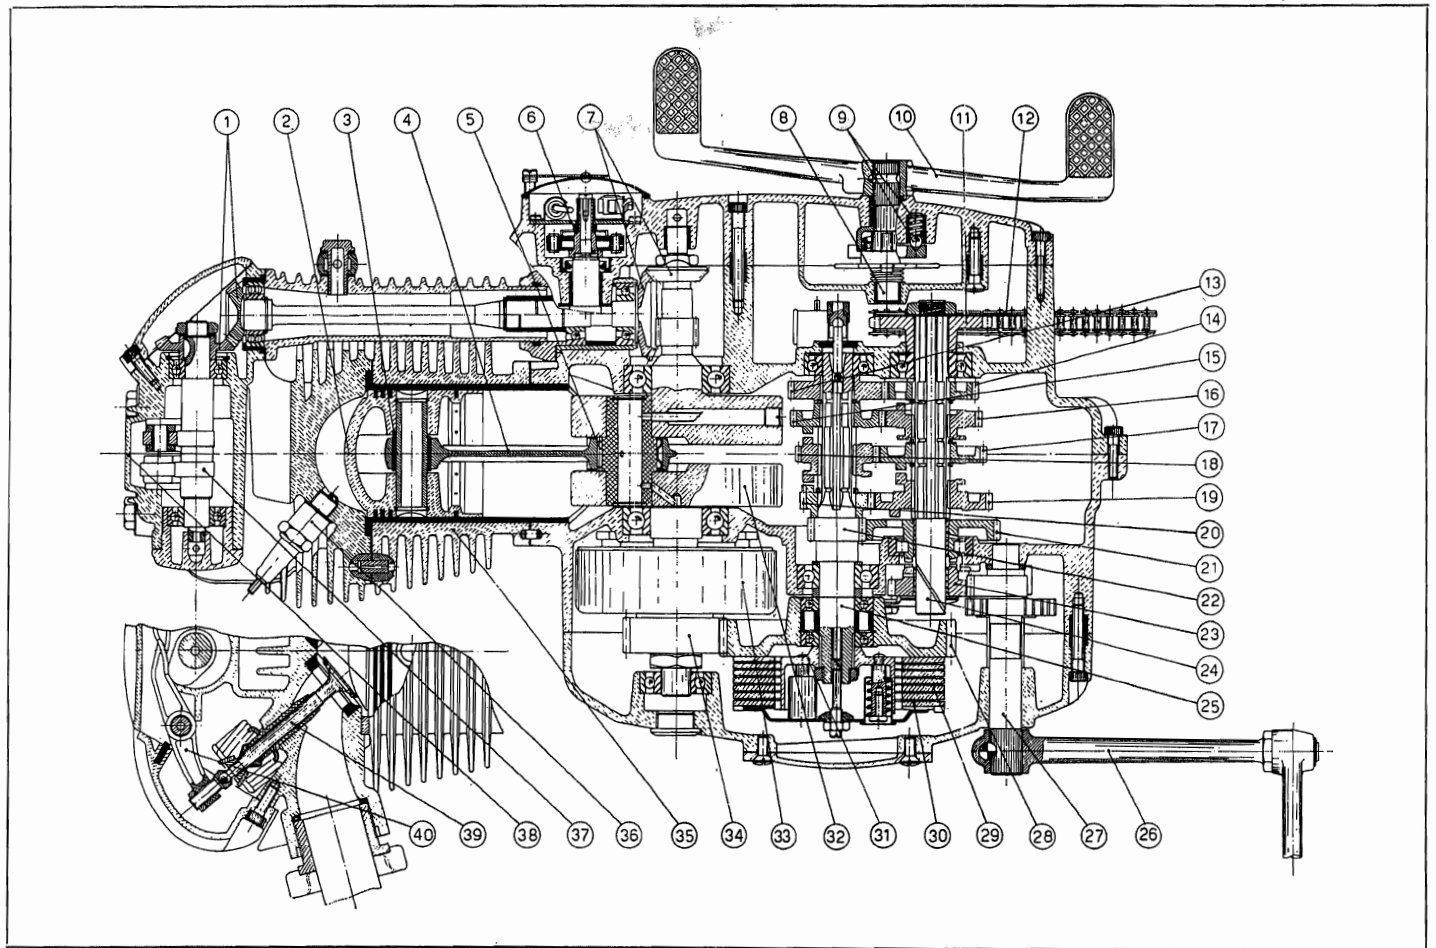

Fig. 23
The basic engine described below is that of the « 250 G.T. » Motor Cycle (fig. 23).
As can be seen in fig. 23, the starter consists of a sector gear shaft (27) that meshes with the starting gear (23) which, in turn - through the face teeth - engages the bottom gear (21).
Fig. 23 of the General Operation picture shows the gearbox in neutral position.